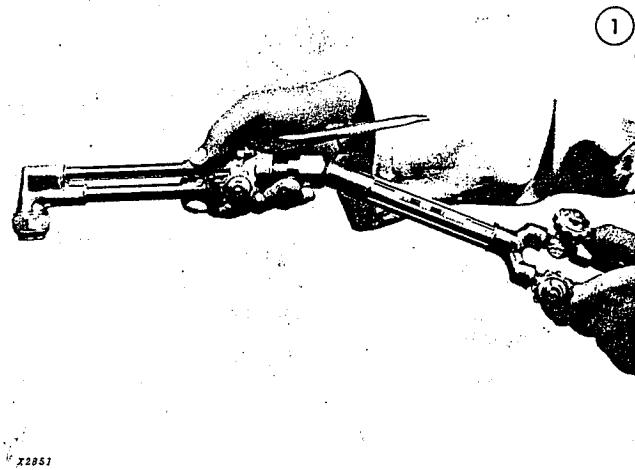

Fig. 80 — Installing Cutting Attachment On Torch
1. Attach the cutting attachment to the welding torch by holding the attachment in one hand and the welding torch in the other (Fig. 80). Tighten the fittings.